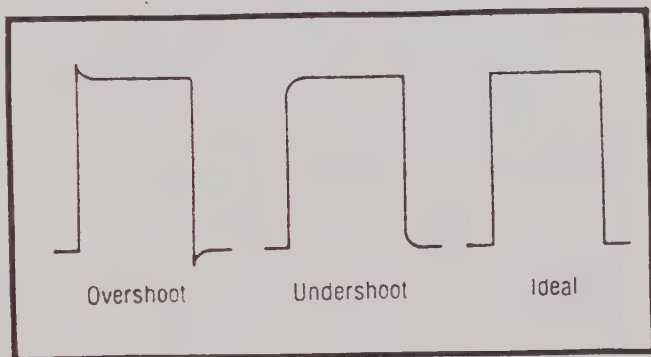

Fig. 25. Adjusting 1 kHz Square Wave Characteristic.
3. Adjust the external trimmer for the ideal square wave characteristic per Fig. 25. This is the reference square wave. The external trimmer should not be readjusted after this step.
2. Observe square wave characteristics for reference. See Fig. 25 for desired wave-shape.
1. Set SWEEP TIME/DIV control to 0.2 ms and apply 1 ms marker signal to CH A to display three pulses on screen (Fig. 25).